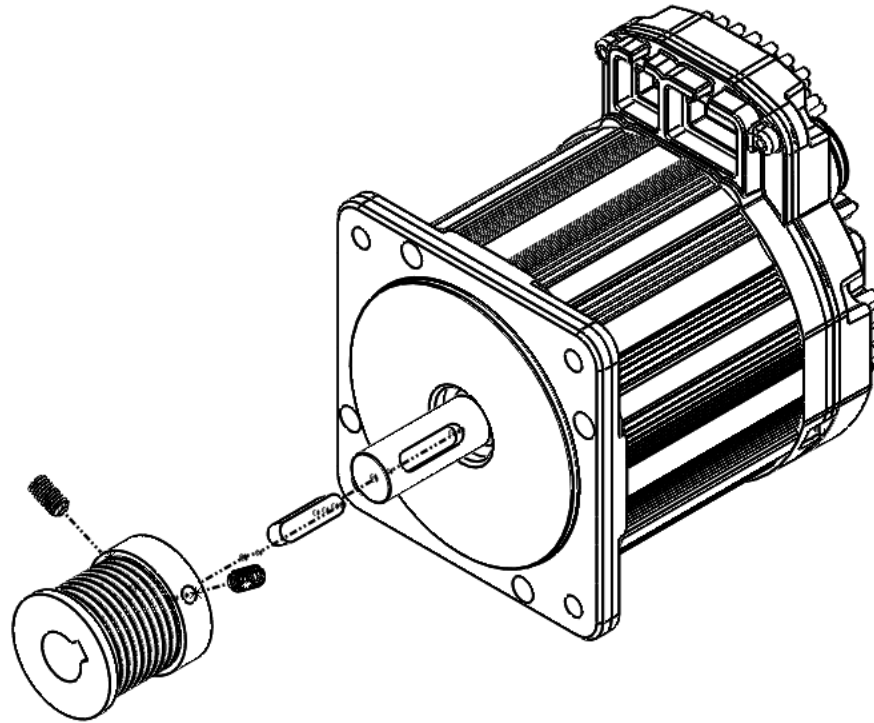

Figure 44: RLVDC Teknic Motor Pulley Assembly
5. Remove the motor pulley by loosening two setscrews as shown in Figure 44
6. Install the replacement pulley using two setscrews and key as shown in Figure 44. Torque #10-32 set screws to 80in-lbs.